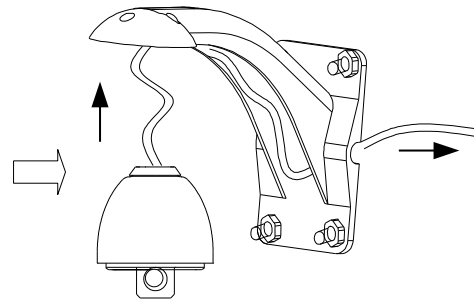

Figure 11
8. Drill the system control wires through the bracket (see Figure 11).